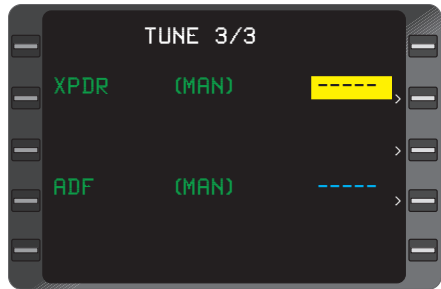

Figure 3-152
2. Line Select Key - DEPRESS to position the cursor over the desired code or frequency field. (Figure 3-152)